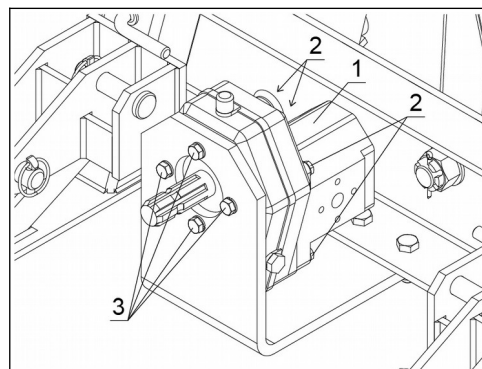

Fig. 69
3. Loose the bolts (Fig. 69, No. 3) and remove the gearbox of the HAN
5. Mount the gearbox HAN back by securing the bolts (Fig. 69, No. 3).